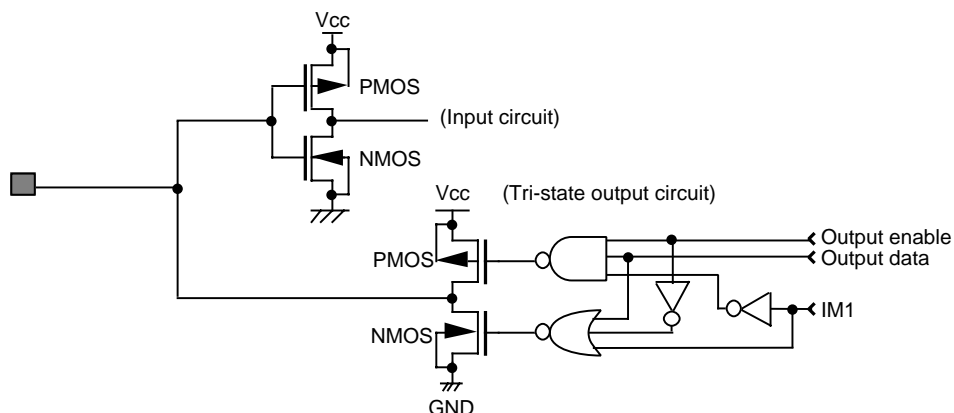

Figure 41 I/O Pin Configuration
2. The following three circuits are I/O pin configurations (figure 41).